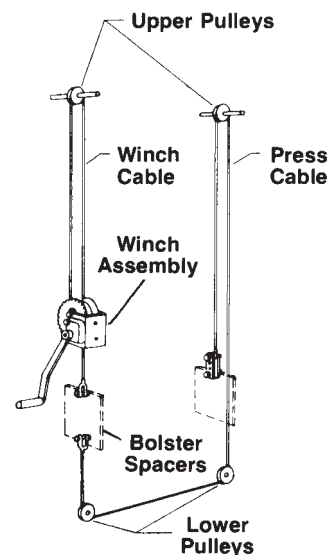

Figure 1. Cable Routing Diagram
6. To install bolster lifting mechanism, insert pulley axles (8) through one side of the middle holes in press uprights, place pulleys (9) on axles then push shafts into holes in other side of press uprights. Use a general purpose grease on pulley axles for lubrication.
7. Mount remaining bolster to uprights using bolster bolts (11) and hex jam nuts (10). This will hold pulleys (9) and axles (8) in place.
8. Fasten winch cable (40) to winch assembly (4), then attach winch and cable assembly to left upright (3) using cap screws (6) and washers (5). Tighten cap screws securely.
9. Attach winch cable (40) over pulley to top hole in the left bolster lifting plate using cap screw (25), secure with hex nut (36).
10. Attach press cable (41) to lower hole in the left bolster lifting plate using cap screw (25) and hex nut (36). Lay cable in center of lower lifting bracket (22) then install pulleys (39) with clevis pins (20), secure with cotter pins (21). Thread cable over upper right pulley (9) and attach to right bolster lifting bracket with cable straps (35) and cap screws (34) and locking nuts (36). (See cable threading diagram Figure 1.)